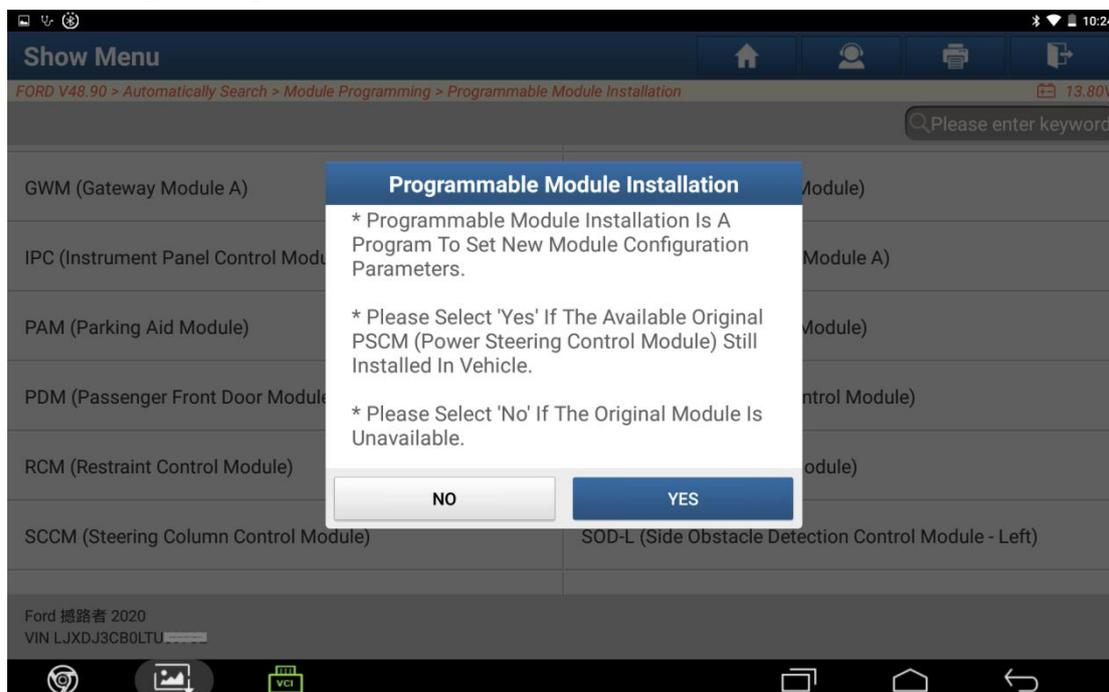

Figure C7
6. The module installed on the current car is the old module of the original car, the module is available, and the communication is normal. See Figure C7. Click Yes to go to step 7.